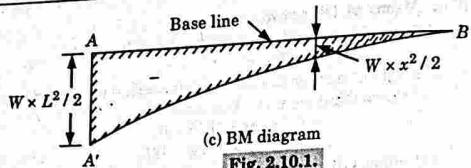

Fig. 2.10.1.
- Fig. 2.10.1 shows a cantilever of length L fixed at A and carrying a uniformly distributed load of w per unit length over the entire length of the cantilever.